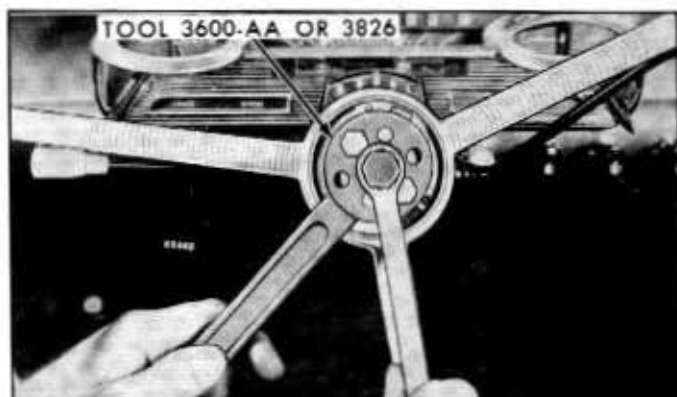

Fig. 5-6—Steering Wheel Removal—(60C-1204)
2. Remove the nut from the end of the steering shaft. Remove the steering wheel from the shaft with Tool 3600-AA or 3826. See figure 5-6.
2. After removing the retaining nut, remove the steering wheel with Tool 3600-AA. Refer to figure 5-6. Unscrew the turn indicator lever.